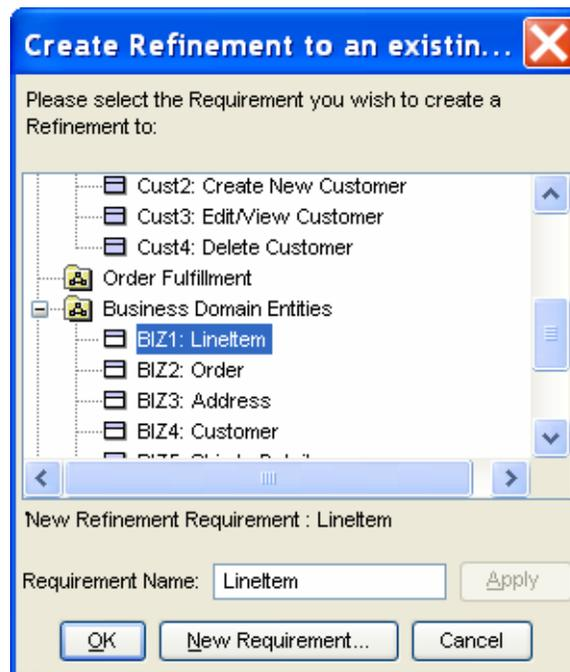

Figure 51 – Create New Refinement screen
- Now click on the  button in the central vertical toolbar adjacent to Requirements Map and the screen in Figure 51 – Create New Refinement screen will appear.
The Figure 51 – Create New Refinement screen shows each of the packages and requirements where you can refine to.